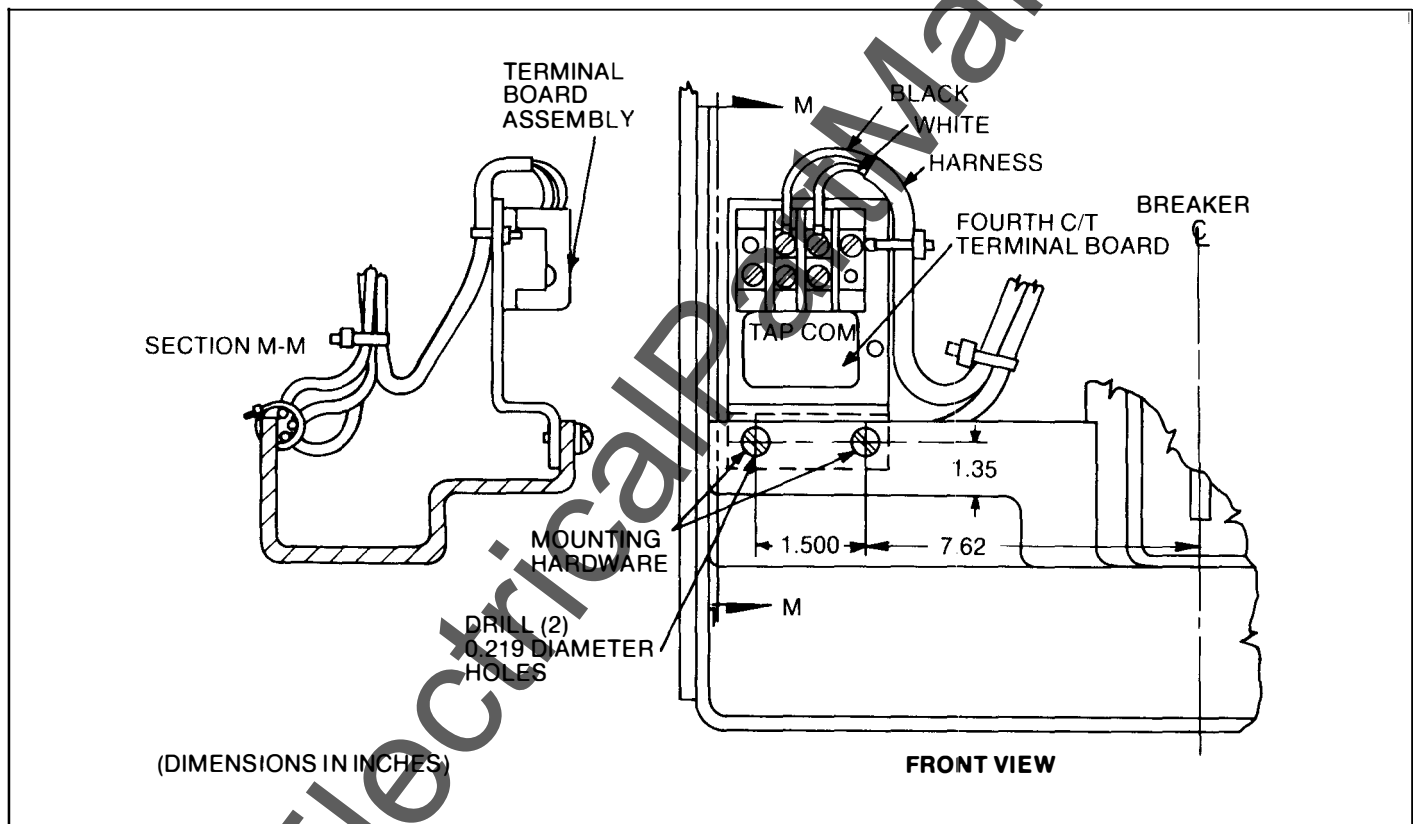

Fig. 4-2. 4th-wire terminal board installed — AK/AKS-50 stationery
The 4th-wire disconnect for stationery breakers is a terminal board which is mounted to the lower front channel as shown in Fig. 4-2.
2. If the terminal board assembly is being added, mount as shown in Fig. 4-2. The mounting holes may have to be added to the front channel. See Fig. 4-2.